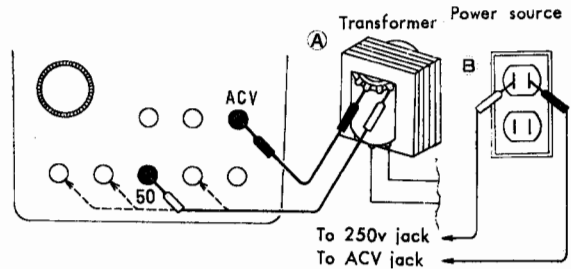

Fig. 2
- a. The test leads are connected to the meter as shown in Fig. 2.